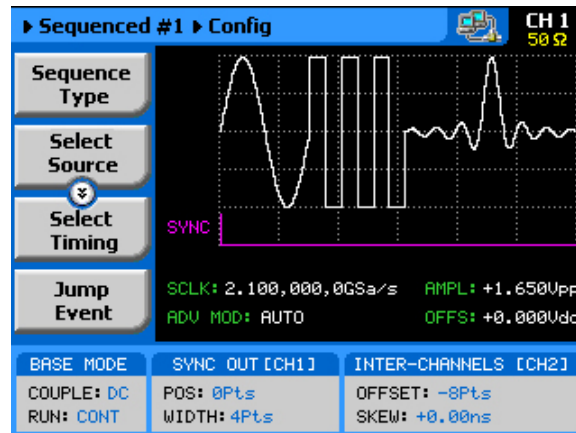

Figure 3-27, Sequence Configuration Parameters
**Config** – provides access to a new menu that has sequence configuration controls. The configuration menu is shown in Figure 3-27 and its controls are described below. There are 6 control